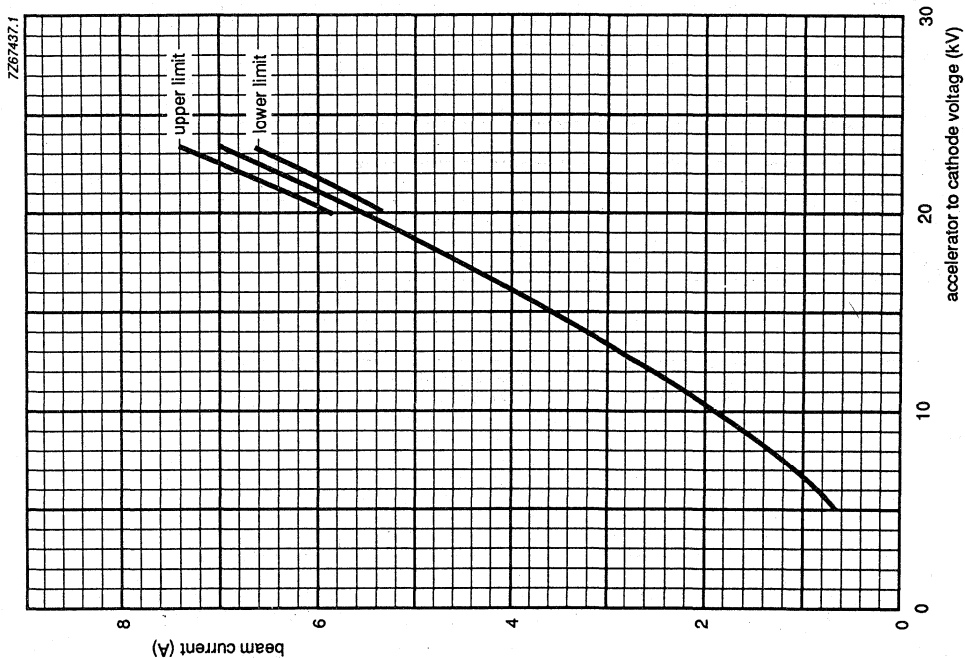

Fig. 4.
6. For beam current (tolerance \pm 5 %) versus accelerator-to-cathode voltage, see Fig. 4.